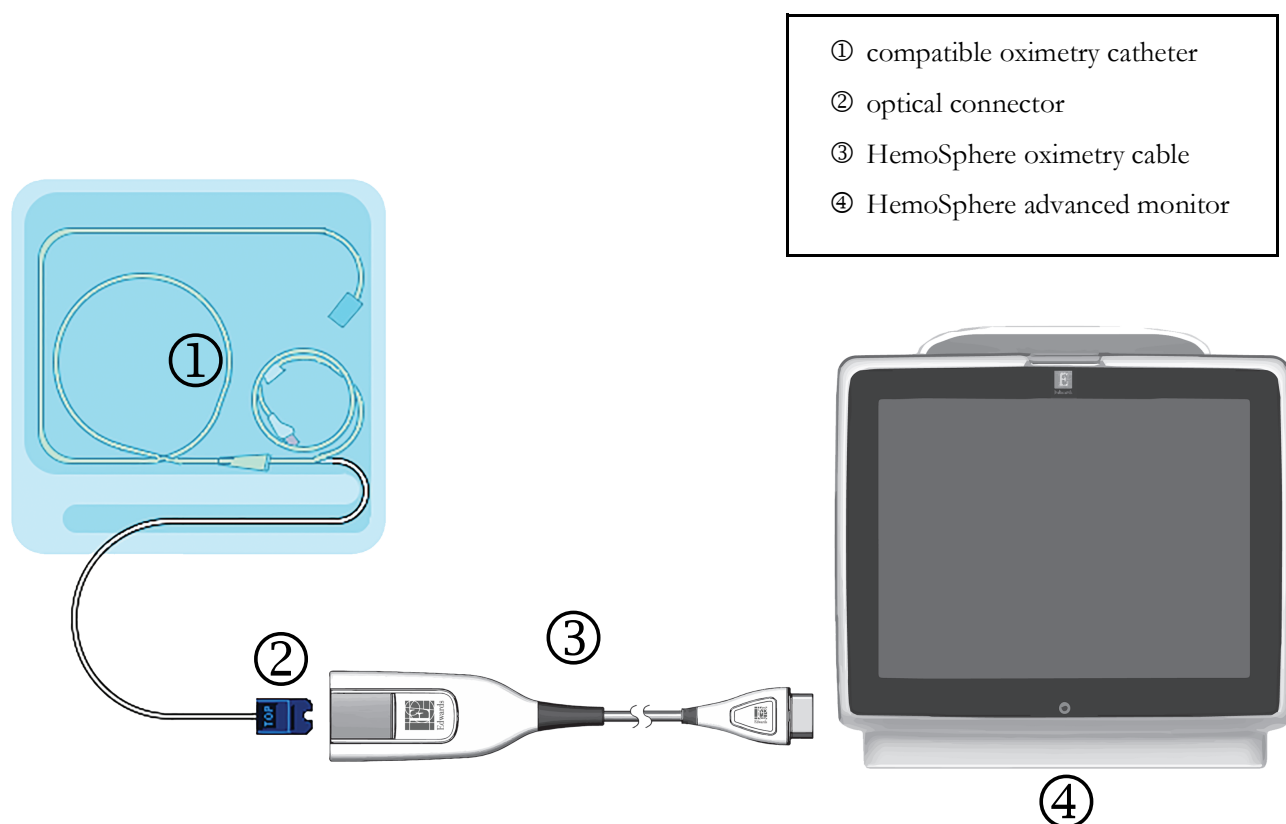

Figure 4-2 Oximetry connection overview
- 1 Connect the HemoSphere oximetry cable to the left side of the HemoSphere advanced monitor. See figure 4-2.